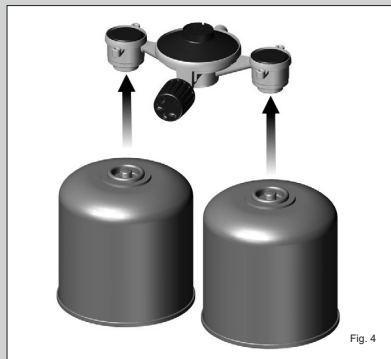

Fig. 4
- Insert the two gas cartridges onto the unit by screwing them in place (Fig.4).